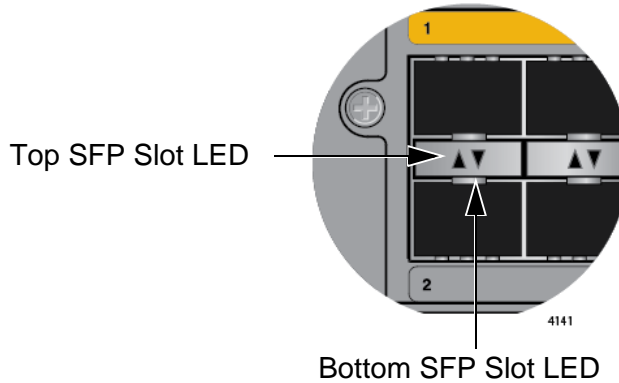

Figure 33. SFP Port LEDs on the AT-SBx81XLEM Line Card
**LEDs** Each SFP port on the AT-SBx81XLEM Line Card has one LED. The LED is shown in Figure 33 and described in Table 14.